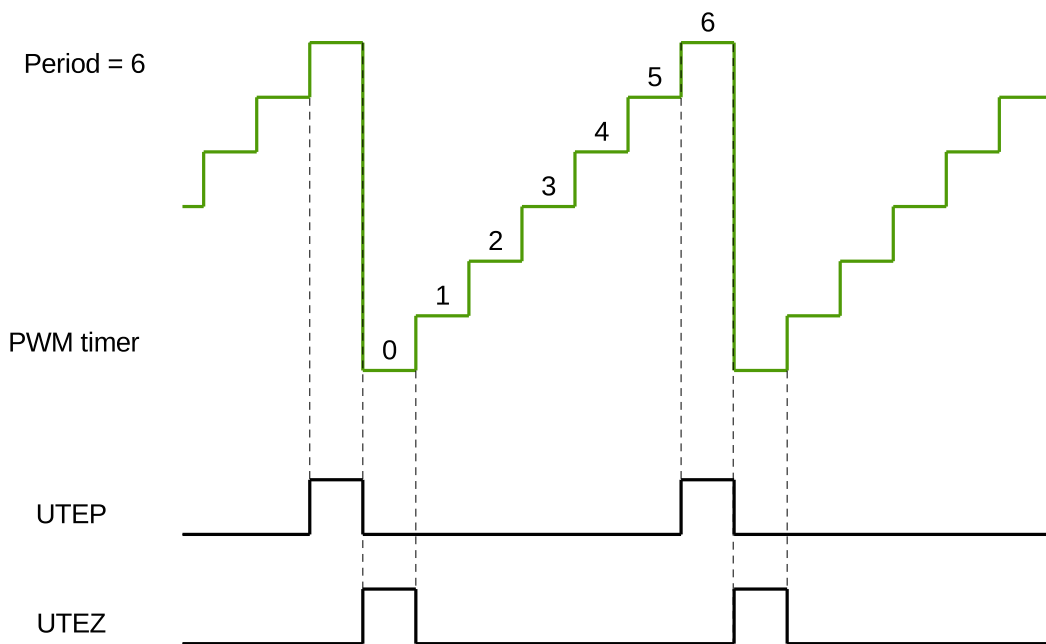

Figure 16-11. UTEP and UTEZ Generation in Count-Up Mode
Figures 16-11 to 16-13 show the timing waveforms of U/DTEP and U/DTEZ.
1. UTEP and UTEZ do not happen simultaneously. When the PWM timer is in count-up mode, UTEP will always happen one cycle earlier than UTEZ, as demonstrated in Figure 16-11, so their action on PWM signals will